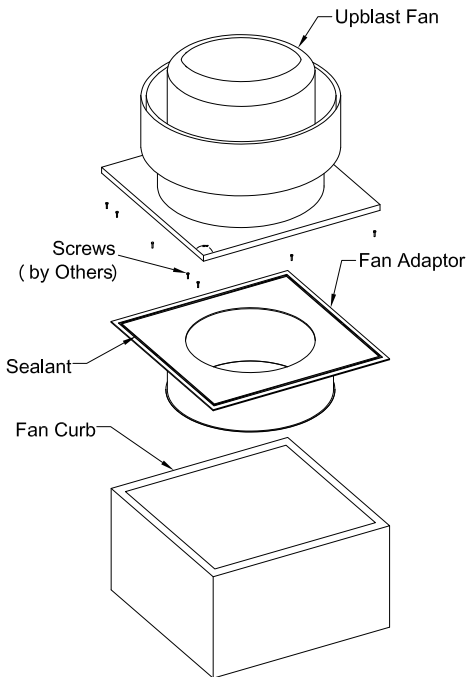

Figure 117: Fan Adapter
2. When connected to an upblast fan, the plate mounts on top of the fan curb which supports the fan housing. See Figure 117.
5. Secure the plate to the curb a minimum of three (3) places per side with minimum #8 x 1-1/4" wood screws. You will have to drill holes in the plate.